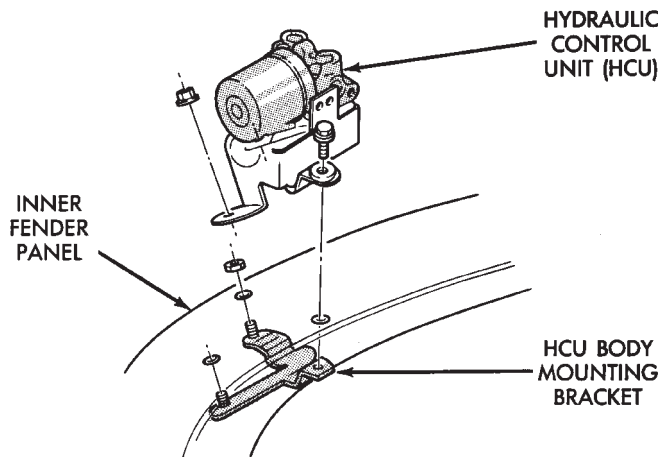

Fig. 16 HCU Mounting (Left Hand Drive XJ)
(5) Mark or tag HCU hydraulic lines for assembly reference.
(6) Disconnect hydraulic lines at HCU.
(7) Move HCU harness and air cleaner hose pipe aside for access to HCU bracket nuts.
(8) Remove single bolt and two nuts attaching HCU to mounting bracket on inner fender panel (Figs. 16 and 17).
(9) Remove HCU. Lift HCU up and off mounting bracket studs. Then work HCU past brakelines and master cylinder to remove it.